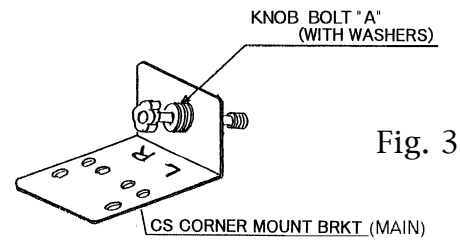
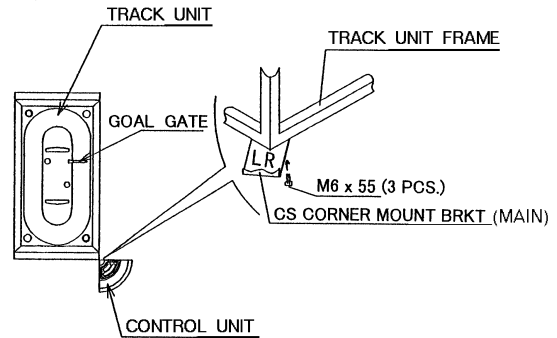
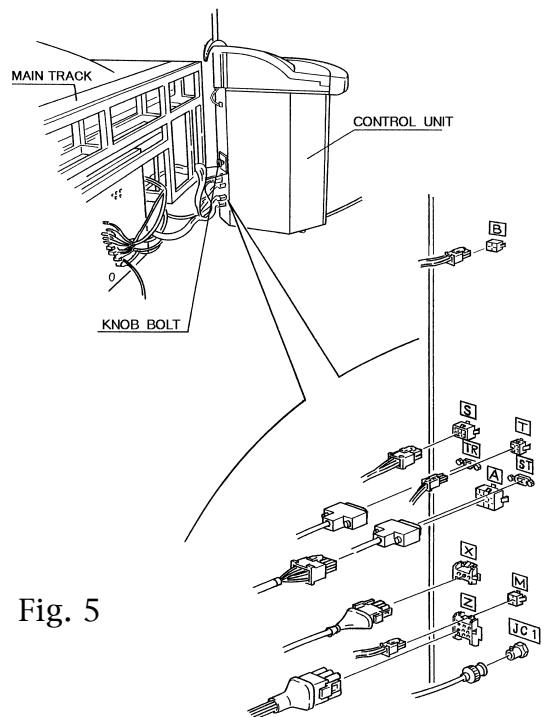

Fig. 3
Fig. 4
Fig. 5
5. Temporarily fix the CS corner mount bracket (main bracket) on the specified corner of the track unit frame. Refer to Fig. 3 and Fig. 4.
Refer to Fig. 3 and Fig. 5.
Refer to Fig. 5.